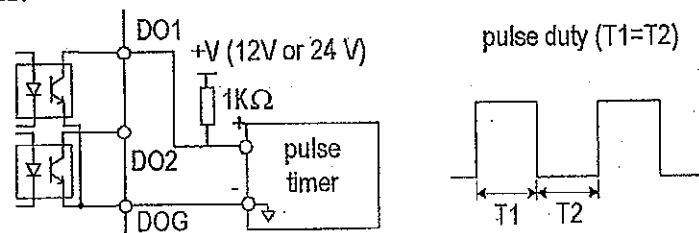

Fig. 45. Pulse signal output
(35) Pulse Output Multiplication-Gain Selection (Sn-35)
- If the multi-function output terminal (DO1) be set as pulse output (when Sn-31 or Sn-32= 14), the final output pulse frequency is the multiple (according to Sn-35) of the inverter output frequency. Refer to Fig. 45 for pulse signal output.